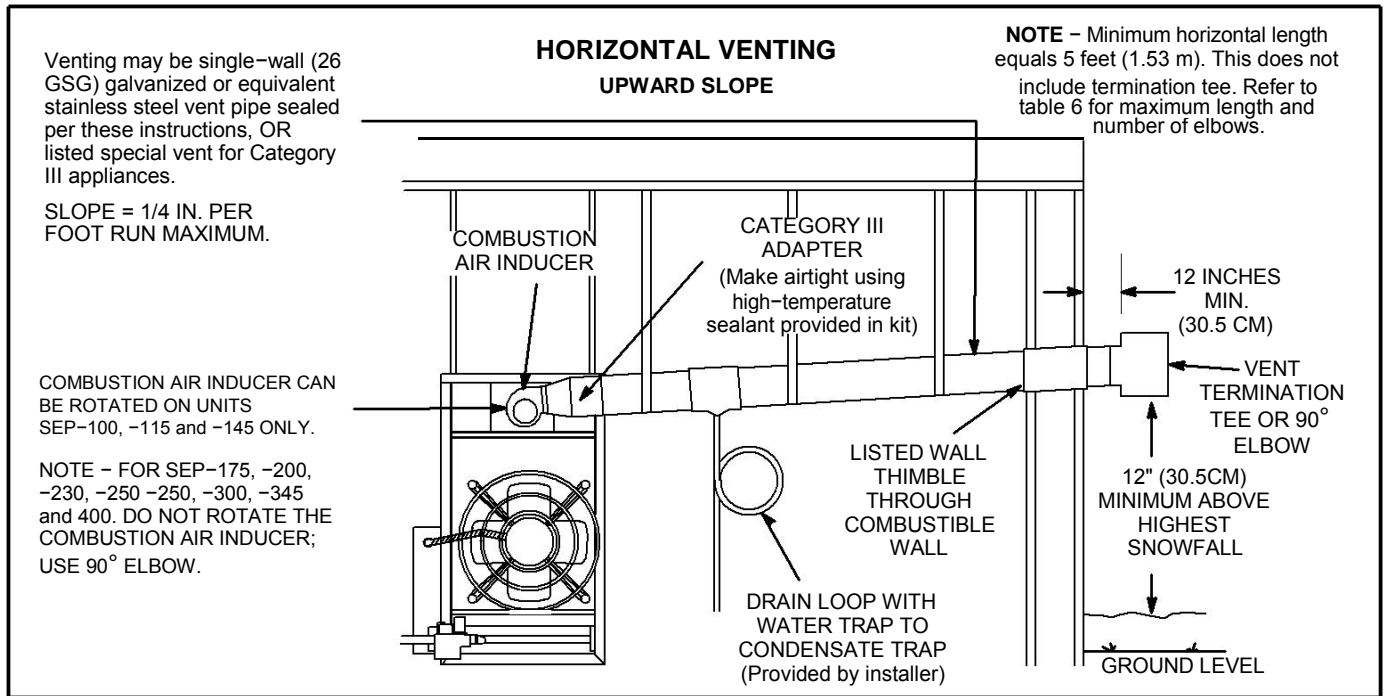

FIGURE 3
- 10 – For upward sloped vent, see figure 3, condensate tee and drain must be installed within the first 5 feet (1.53 m) from the unit heater to protect the appliance.